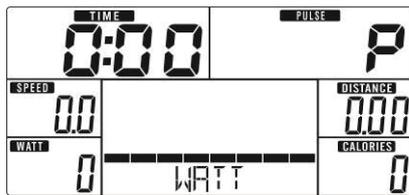

Fig. 17
1. Select the watt controlled program (WATT) in the main menu with the UP/DOWN buttons and confirm the selection with the MODE button (Fig. 17).